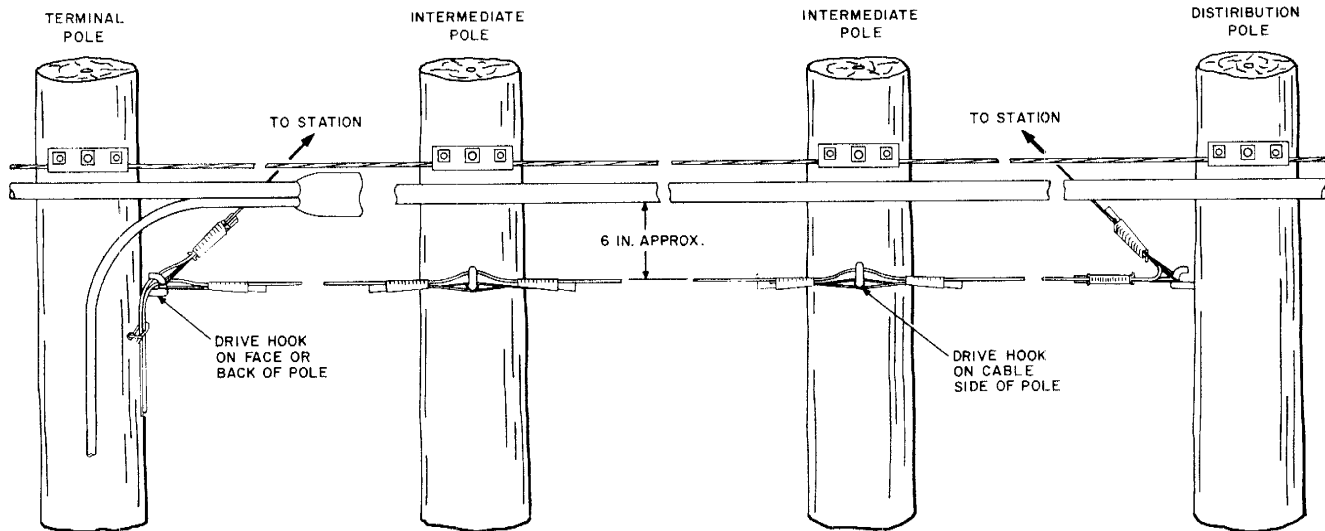

Fig. 4—Drop Wire Run Along Lead Carrying Cable
3.03 Run drop wire below the cable as shown in Fig. 4.